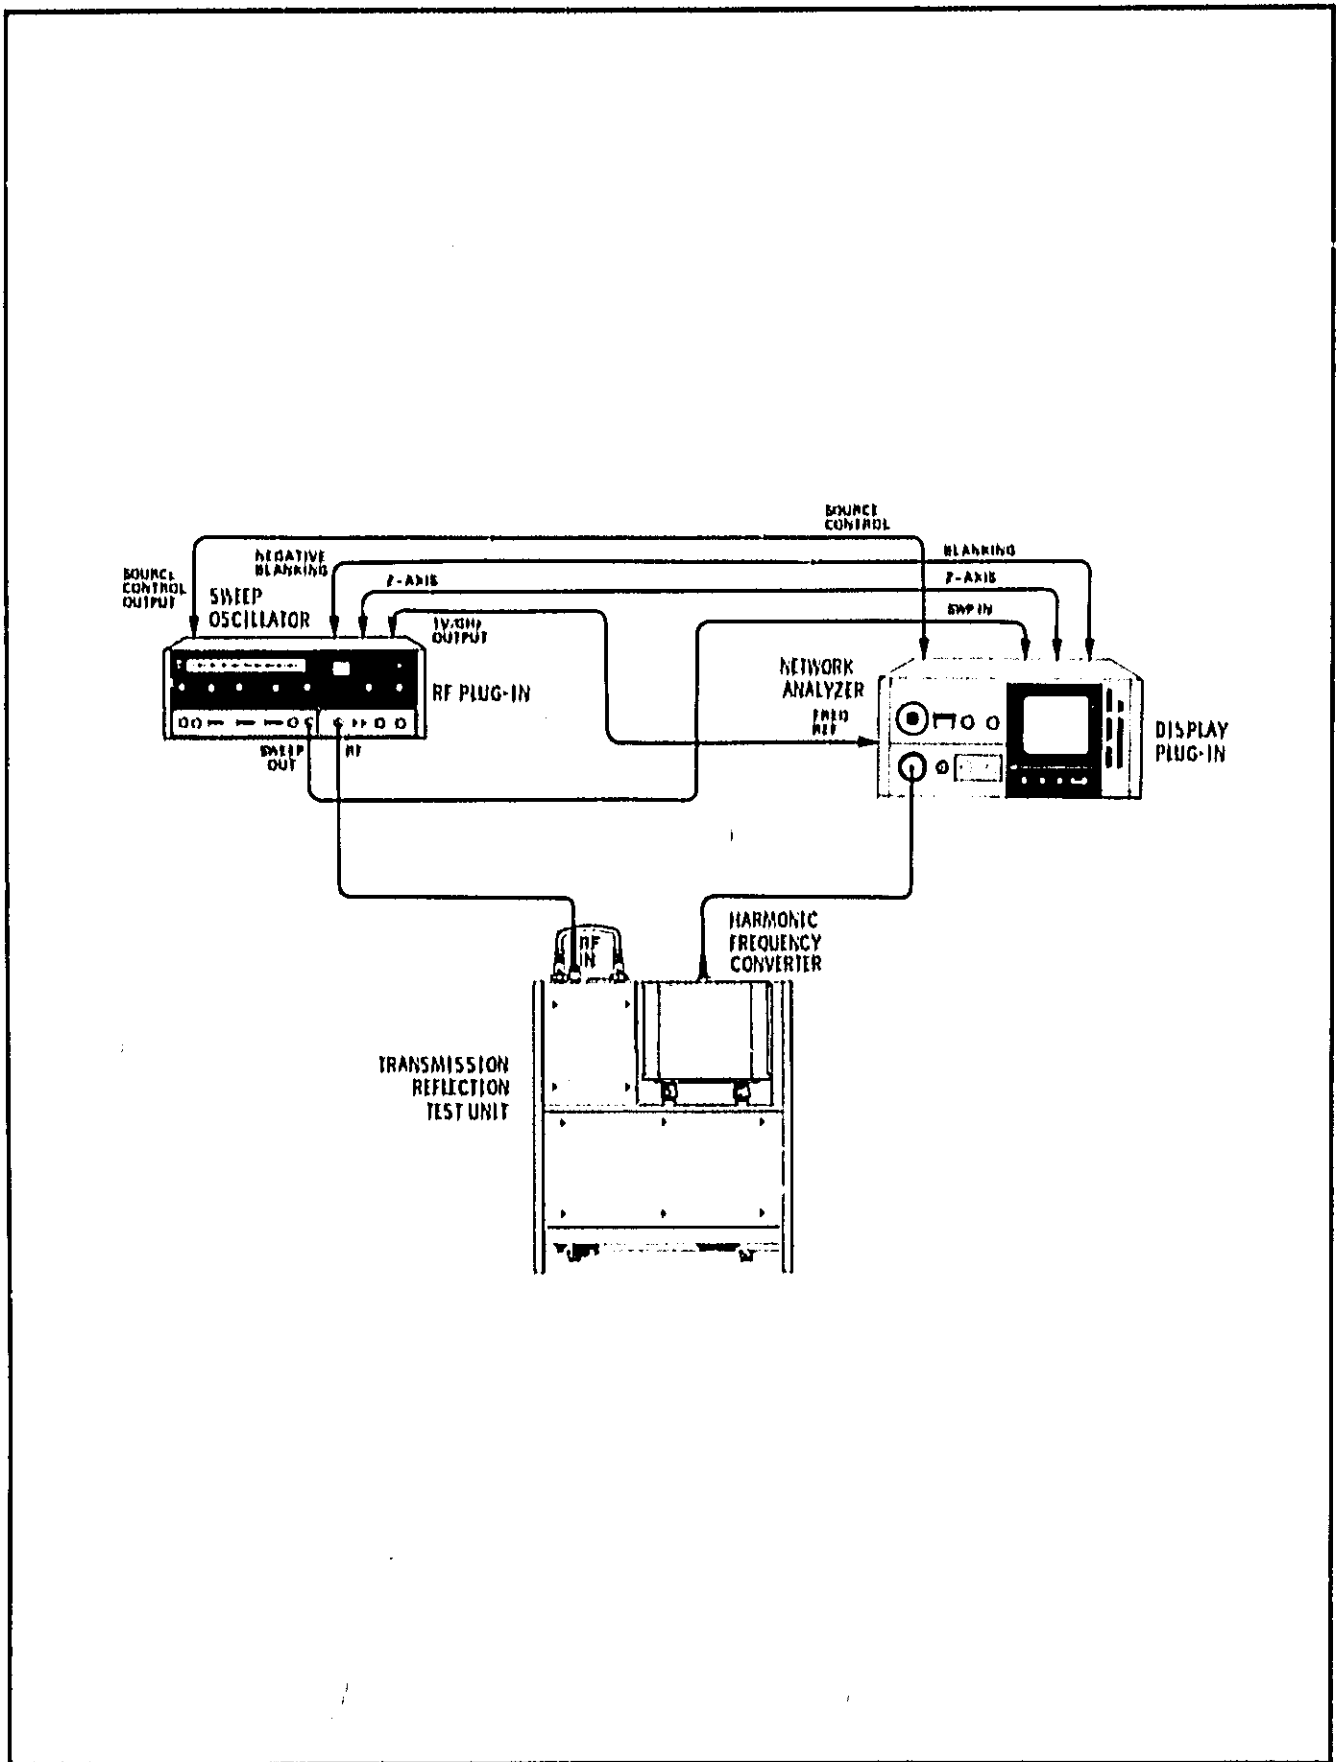

Figure 2-4. Test Setup for Operators Quick Check
a. Connect equipment as shown in Figure 2-4.